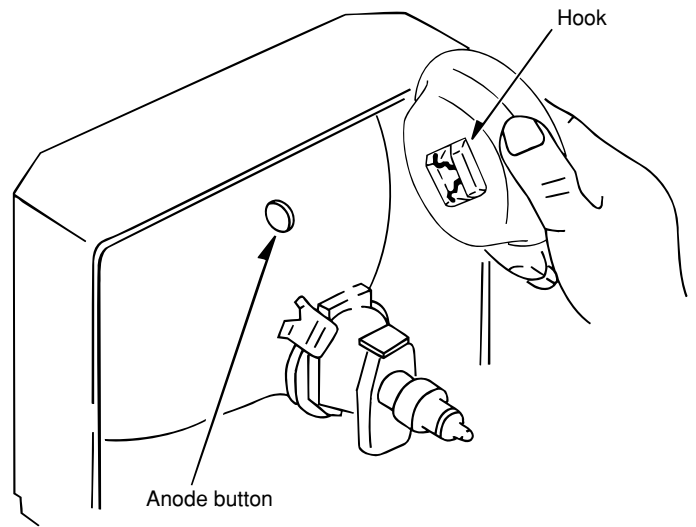

Figure 3-6
- (6) Apply the hook on one side to the anode button as shown on the figure. (See Figure 3-6)